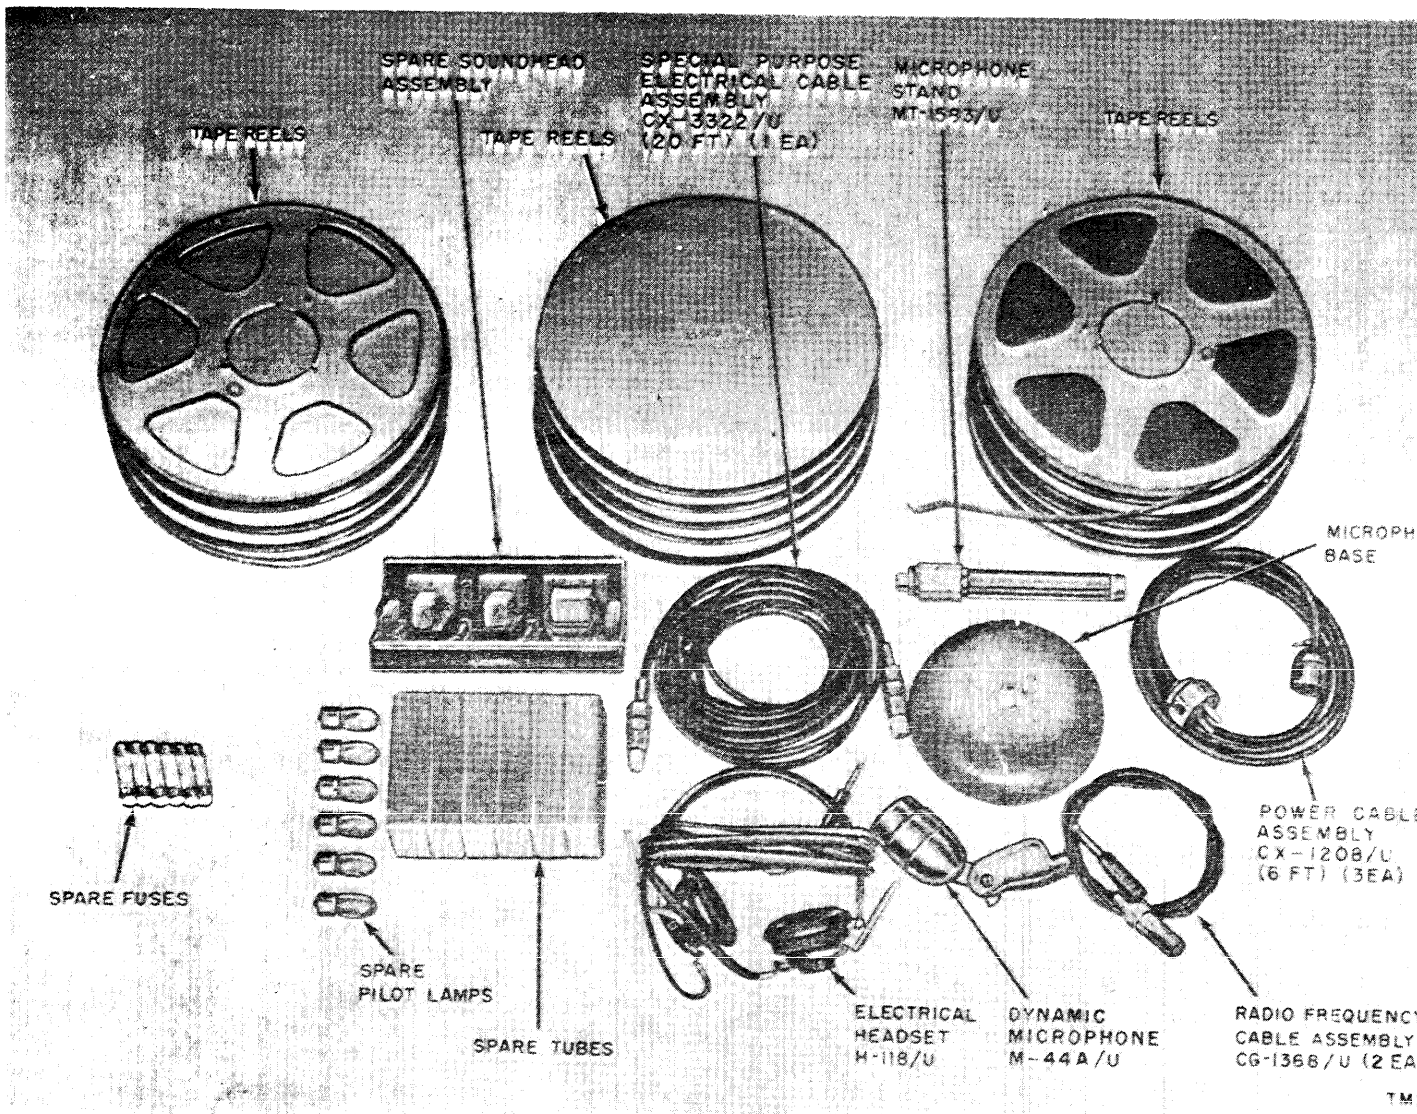

Figure 4. Sound Recorder-Reproducer Set AN/TNH-2A, accessories, running spares, and some components.
h. *Electrical Headset H-118/U* (fig. 4). The headset is a high-fidelity, dynamic-type, 600-ohm headset with a 5-foot connecting cord terminated with a telephone plug.
i. *Power Cable Assembly CX-1208/U (6 ft 0 in.)* (fig. 4). This cable assembly is a conductor, rubber-covered, 6-foot cable, one end of which is terminated with a female connector and the other end is terminated with a male connector.
j. *Radio Frequency Cable Assembly CG-1368/U* (fig. 4). This 6-foot, shielded, single-conductor, rubber-covered coaxial cable is terminated at one end in a female connector and at the other end in a telephone-type plug (PL-55).
k. *Special Purpose Electrical Cable Assembly CX-3822/U (20 ft 0 in.)* (fig. 4). This 20-foot two-conductor, shielded, rubber-covered cable is terminated on one end with a female connector and at the other end with a recessed male connector.